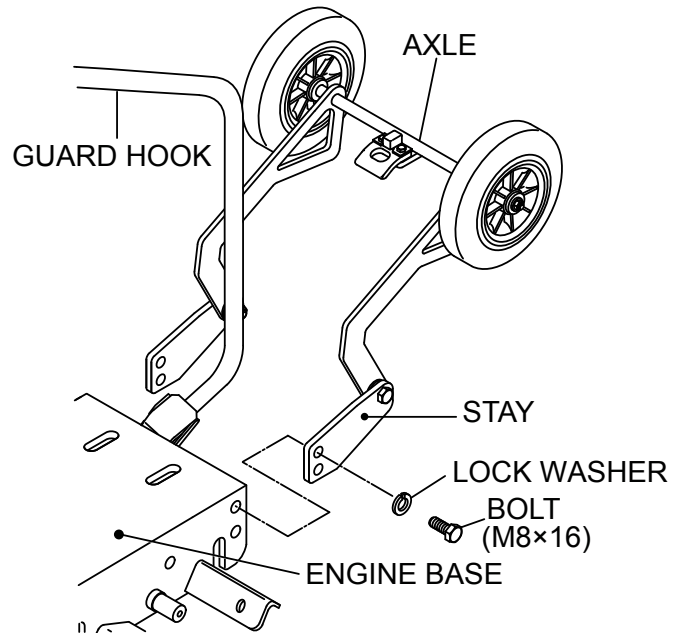

Figure 3. Axle Installation
1. Attach the stay (item 12) of the axle to the engine base using the supplied M8X16 bolts (item 13) and M8 lock washers (item 14). See Figure 3.